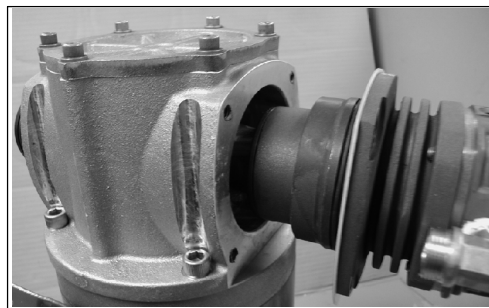

Figure 70 Cylinder Head Removal
7. Pull each cylinder and head assembly away from crankcase. Removing the cylinder may require a slight twist motion back and forth, because of an o-ring seal. Keep cylinder shims with each cylinder. See Figure 70.